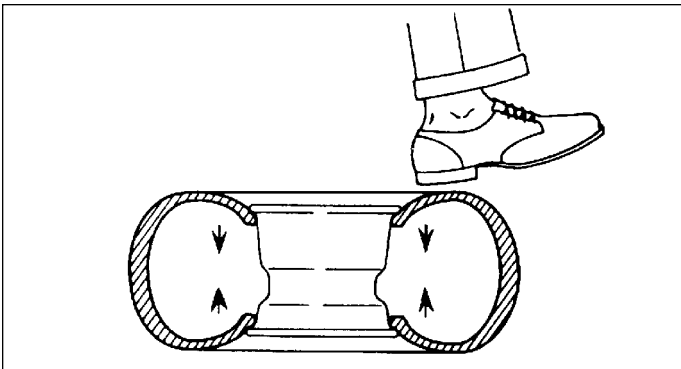

Figure 11 - Break Bead of Tire From Wheel
3. If tire machine is unavailable, use tire irons to work the ball of wheel in small steps. See Figure 11.